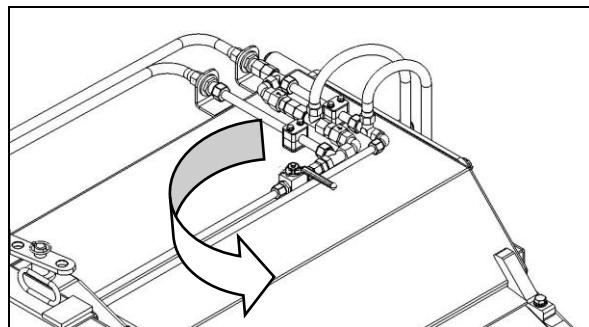

Fig. 4.10
- and close the hydraulic cylinders for the collection hopper (Fig. 4.10).